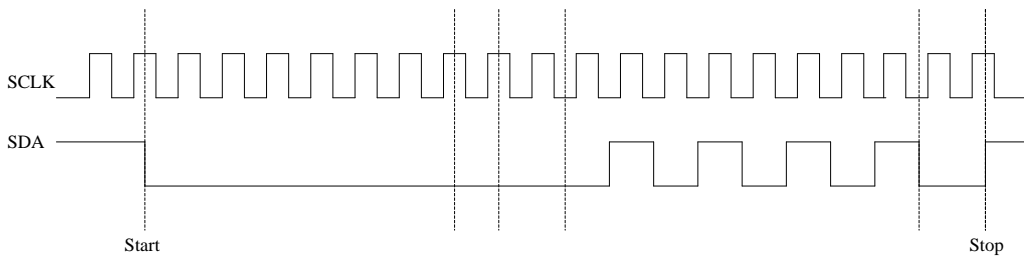

Figure 3-5 Time sequence of IIC protocol
From the above Figure 3-5, where SDA jumps from high to low when SCLK=1 indicates the "start" of the data output, and then; Address (0x00), Write operation (0), response bit (High Z), 1 Byte data (01 code pattern), response bit (High Z). The data output stops when SDA jumps from low to high when SCLK=1.
- 3) Data in D0 and D1 can be edited with reference to Figure 3-5. While D2 is the Mask Channel, setting the corresponding bits of D1 (Tri-state